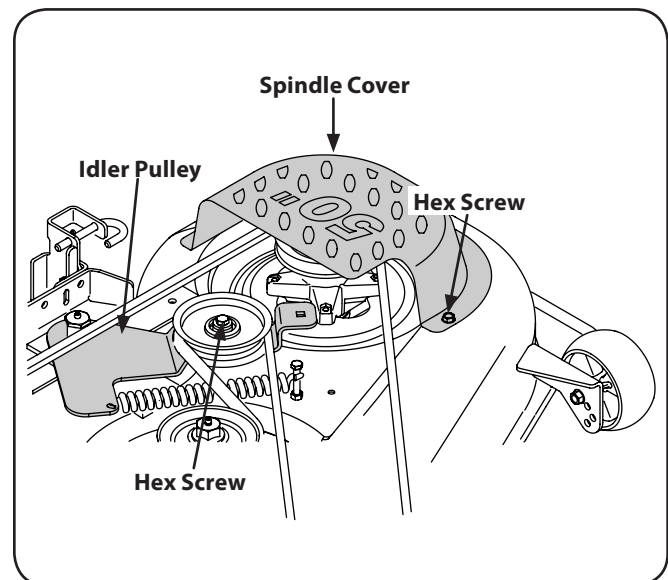

Figure 7-4
- Remove the spindle covers by removing the self-tapping screws that fasten them to the deck. See to Fig. 7-4.
- Loosen the hex screw fastening the idler pulley to the idler arm as necessary to slide the belt from between the idler pulley and idler arm. See Fig. 7-4.